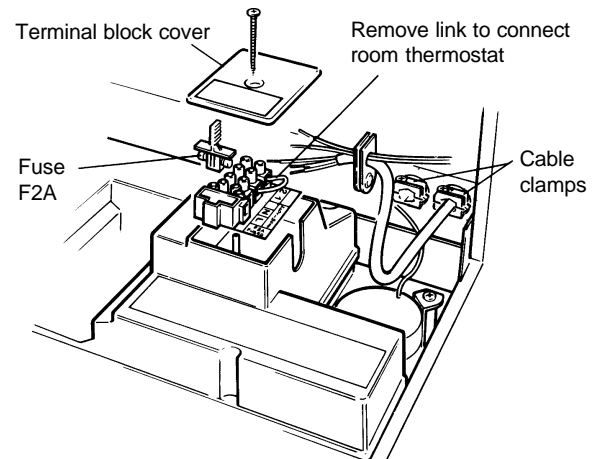

Fig. 14
4.8 CONNECT THE MAINS SUPPLY - Fig. 14
- Remove the screw securing the terminal block cover from the back of the control box (see Fig. 14). Pass the mains supply cable through the cable clamp and connect as follows:- Brown to L, Blue to N and Green/Yellow to \perp . Ensure correct polarity.